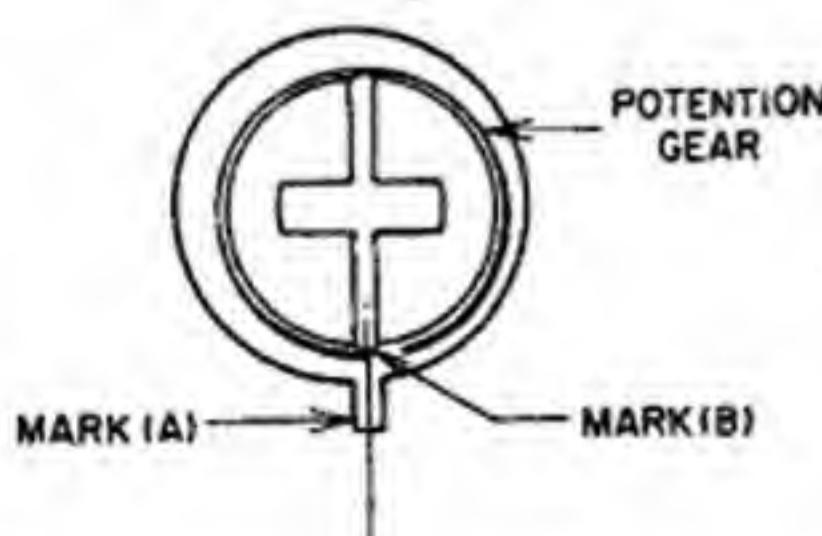

Fig. 4-14
- 1) Attach the position potentiometer to the capstan holder and attach the potentiometer gear. Attach the capstan holder to the motor block and tighten the securing screws. Align the mark on the potentiometer gear with the groove in the motor chassis as shown in Fig. 4-14.